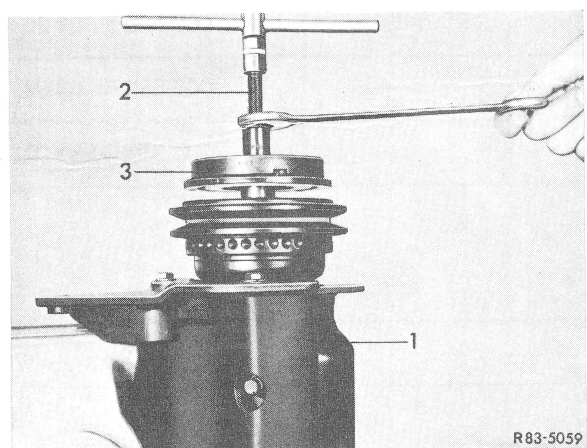

Figure 2
4 Screw remover (2) into hub, hold tool with wrench and tighten central screw (Fig. 2).